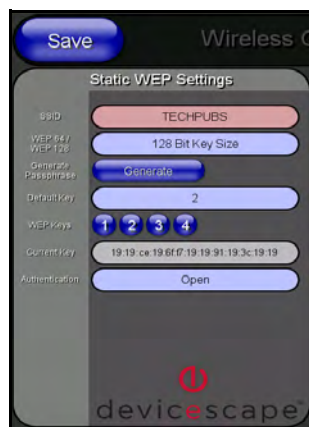

FIG. 13 Static WEP Settings window
- From within the Wireless Security section, press the **Static WEP** button to open the on-screen Static WEP Settings window (FIG. 13).